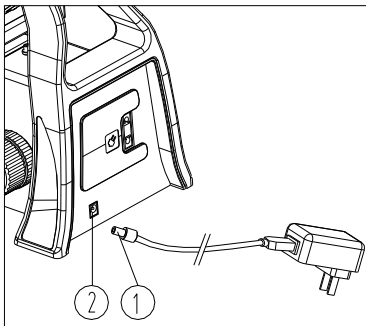

Fig. 5
2. Fully insert the connector ① of power cord into the power socket ②, and make sure it connects well (see Fig.5).